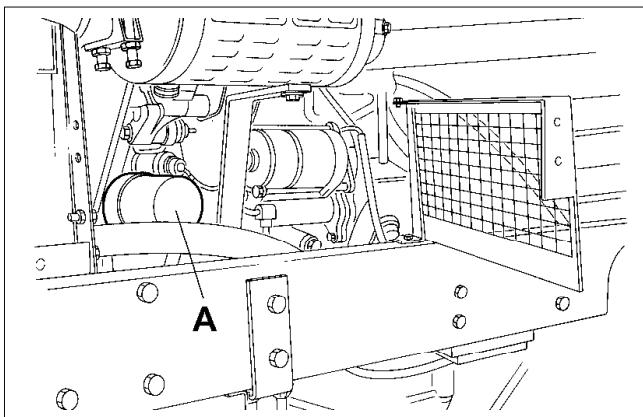

Fig.27
- (a) Remove cartridge (A Fig.27) from engine by unscrewing and discard.
- Dévisser la cartouche (Fig. 27 "A") du moteur et la jeter.